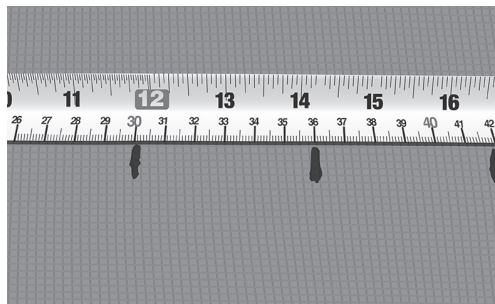

Fig. 8. Mark the C-C distance on the floor
7. Mark the calculated C-C distance on the floor surface (Fig. 8).